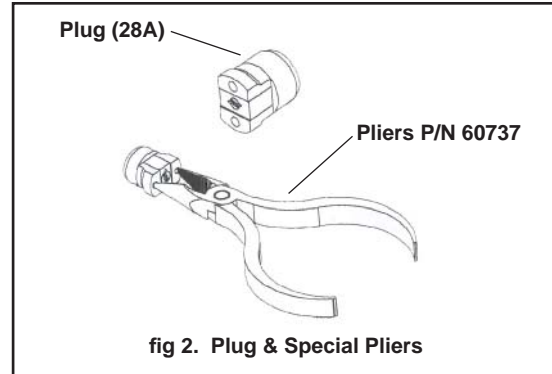

fig 2. Plug & Special Pliers
Note that retainer plugs (28) on early models are threaded and have a hex socket head. Plugs (28A) on later models are of a special design and require the use of special pliers (P/N 60737) to remove or install them (see fig. 2). See the parts illustration for serial number and detail information for each model. The two types of plugs are not interchangeable.
2. Remove the plug (28) or (28A) and then drive out the retainer pin (27) using a punch and hammer.
**NOTE: Do not attempt to drive out plug 28A with a punch and hammer. Always use the special pliers shown in figure 2.**